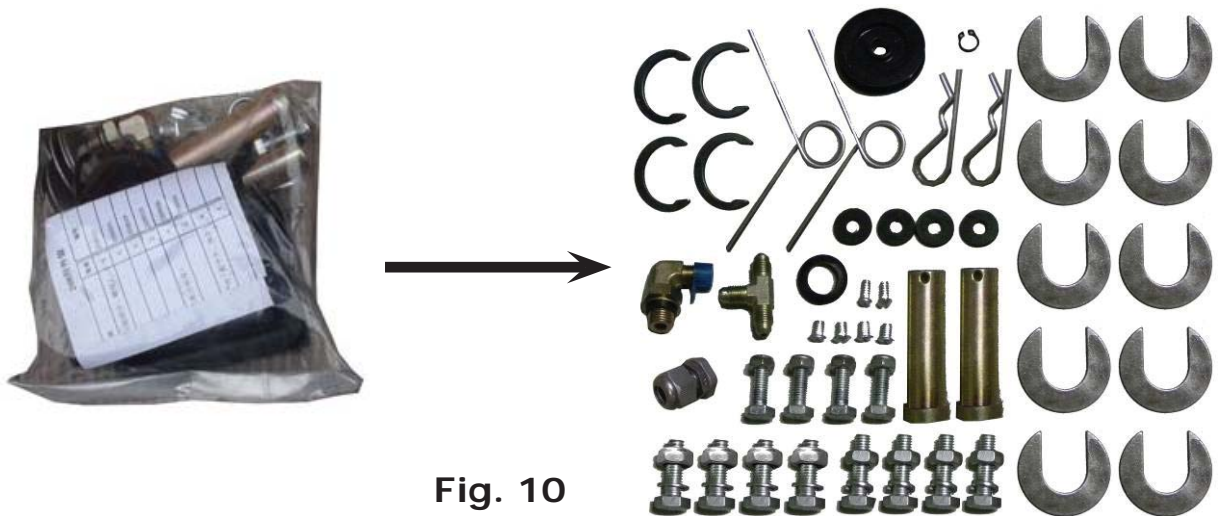

Fig. 10
5. Open the bag of parts and check the parts according to parts box list (See Fig.10).